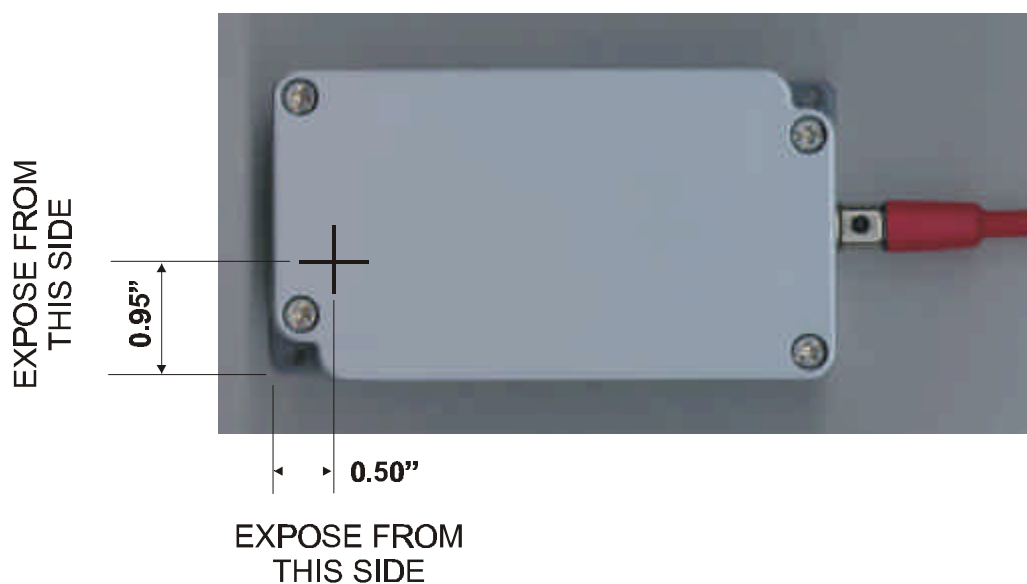

Figure 2 Detector location
- 4 Expose the detector to 1000 mR/h for 1 minute. See figure 2 for location of detector.